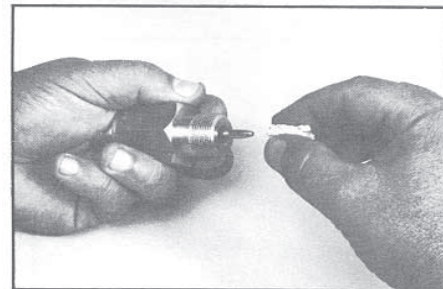

FIG. 11
1. Braided Teflon is available and used in current packing cavity by putting in a dummy stem to fit the packing over as shown in Figure 11. Fill the cavity